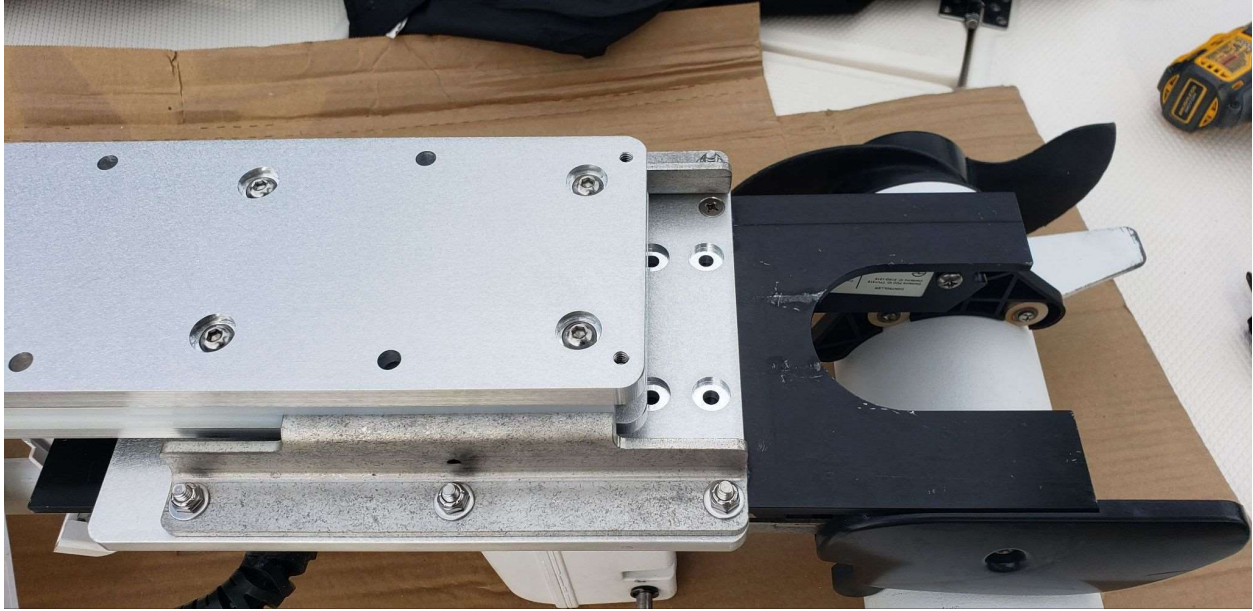

Figure 4b
- Slide the Mount fully to the end as shown in figure 4b